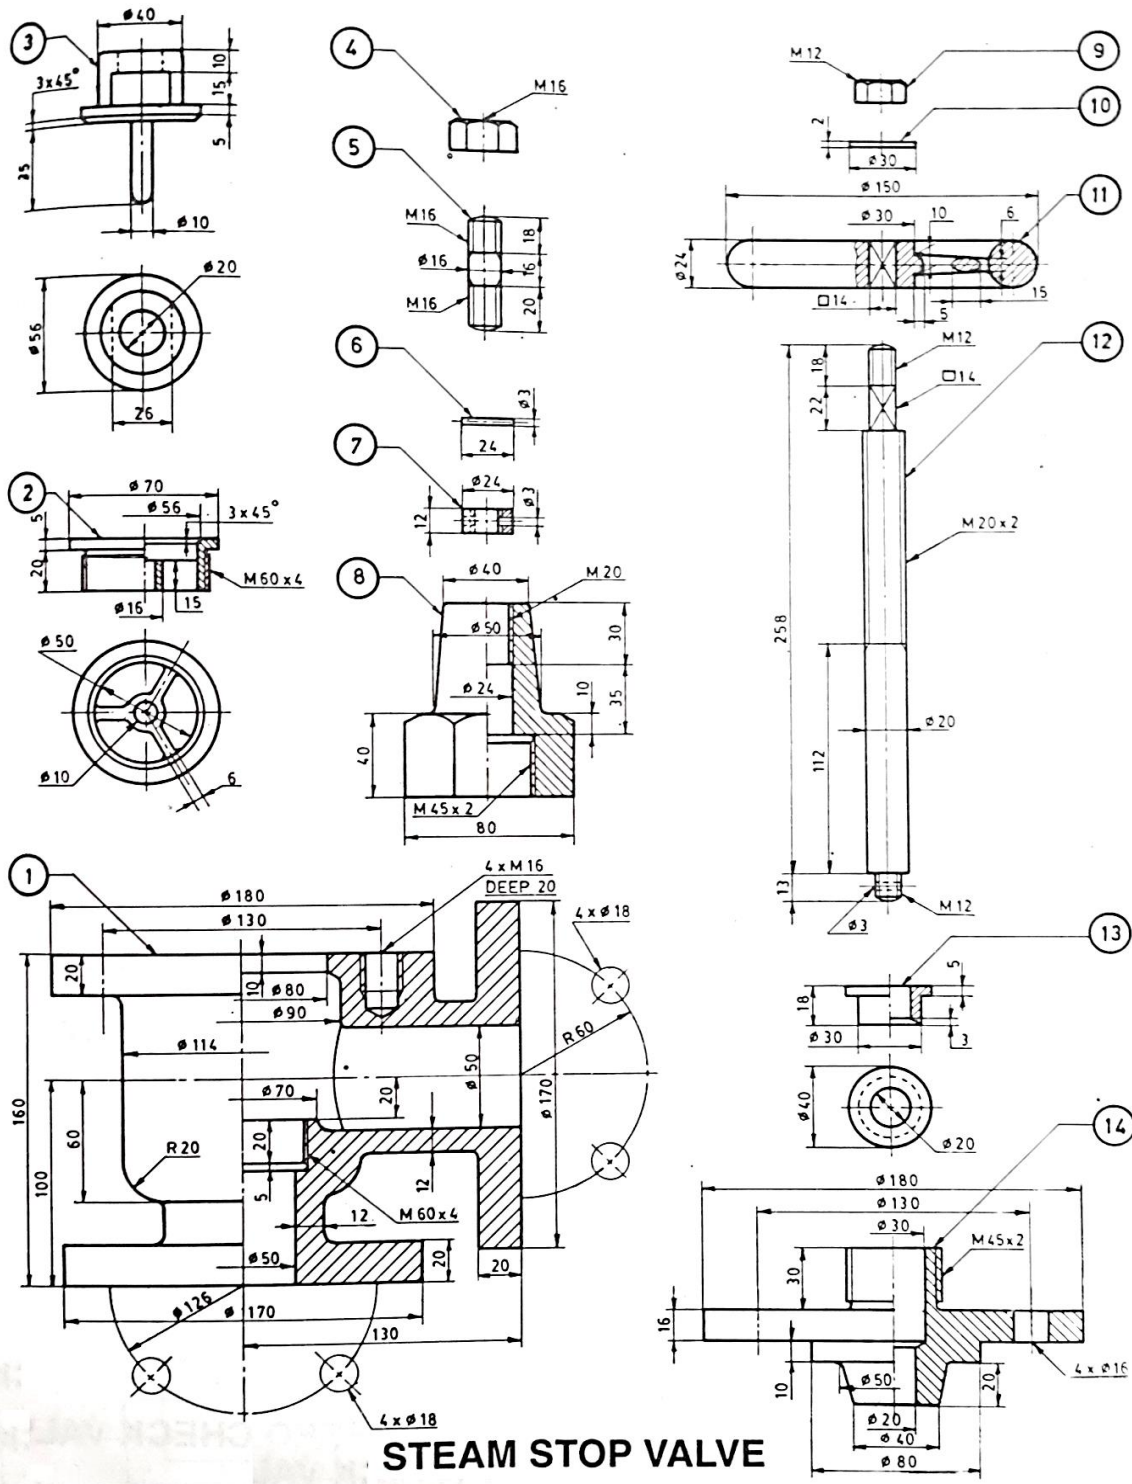

Figure B.7. Steam stop valve
7. Draw left half section and top view of the steam stop valve ss per the details given in the figure using any suitable CAD software. Also prepare bill of materials and tolerance data sheet. Refer figure B.7.